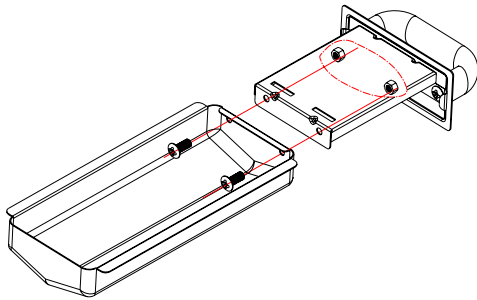

Fig. 7B
Attach the Wood Chip Box to the Front Panel Assembly using (2) M5x10 bolts and (2) M5 nuts as shown in Fig. 7B.